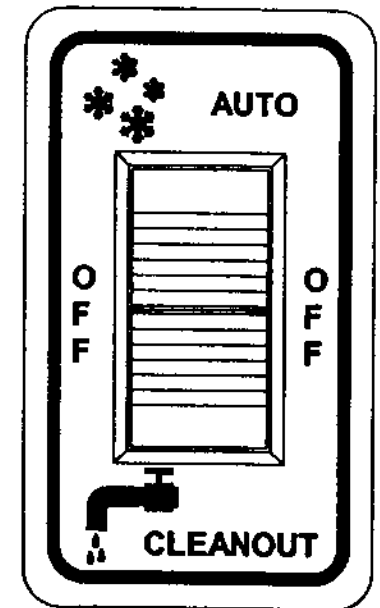
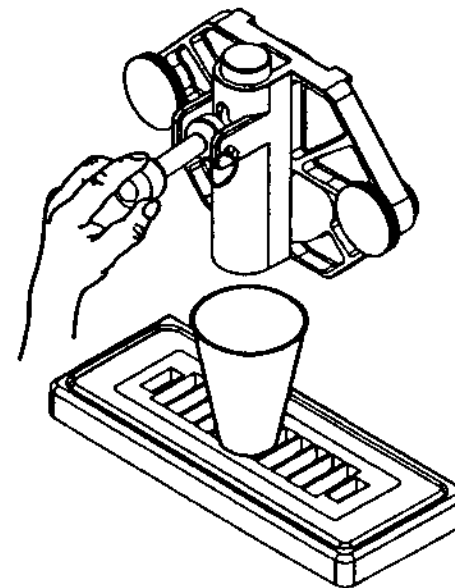

Fig. 9
Fig. 10
2. Set each control switch (Fig. 9) to the "CLEANOUT" position and dispense all product from the freezing cylinder by pulling downward on the spigot handle (Fig. 10) to empty the machine.
3. Set each control switch (Fig. 9) to the "OFF" (center) position. Close the spigot handle(s) (Fig. 10) before proceeding to cleaning.